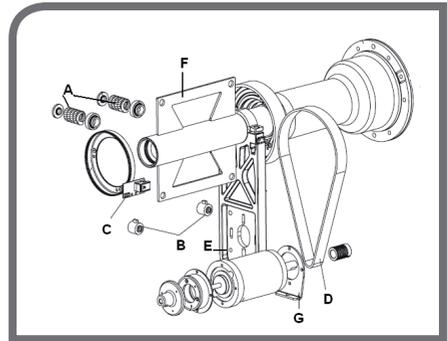
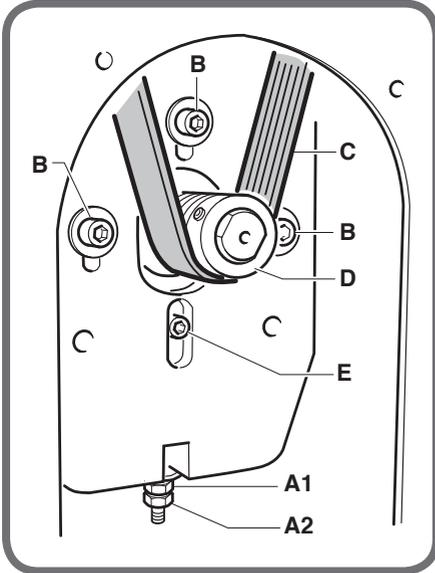

Fig. 10
Fig. 13
- loosen the pick-up pre-load springs completely (A, Fig.10);
- unscrew the two M10 dowels and replace the pick-ups (B, Fig. 10) with the new ones;
- completely unscrew the 2 screws that hold the pre-load springs (A, Fig. 10) of the pick-ups;
- unscrew the two M10 dowels that fix the pick-ups (B, Fig. 10);
- remove the belt (D, Fig. 10) as described in the paragraph “Replacement and adjustment of the belt”;
- disassemble the motor support (E, Fig. 10), unscrewing the two M8 fixing screws;
- remove the swinging unit (F, Fig. 10) after unscrewing the four M12 fixing screws and the relative locknuts;
- Unscrew the nut and locknut used to tighten the belt (A1, A2, Fig. 13);
- Loosen the three motor fixing screws (B, Fig. 13) on the motor support;
- Disassemble the belt (C, Fig. 13) and replace it with the new one;
- Block the motor fixing screws (B, Fig. 13).
- Unscrew the two nuts of the belt tightening screw (A, Fig. 13);
- Loosen the three motor fixing screws (B, Fig. 13);
- Disassemble the belt (C, Fig. 13) from the motor pulley (D, Fig. 13);
- Remove the motor with the flange (G, Fig. 10) from the aluminium support (E, Fig. 10);
- Unscrew the screw fixing the motor (E, Fig. 13) to the flange (G, Fig. 10);